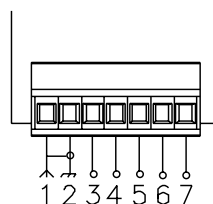

FIG.2
- Remove the terminal from the circuit and make all the necessary connections to the terminal, following the instructions given in Fig. 2; then reinsert the terminal;